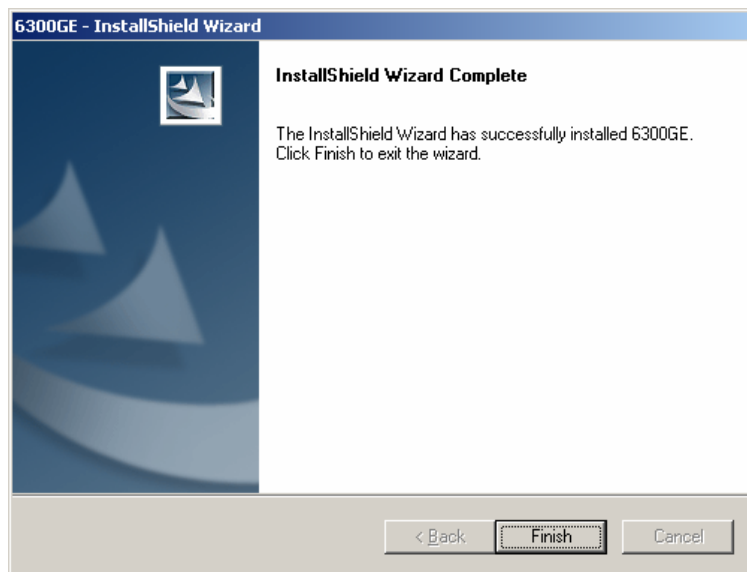

Figure 10
- Upon completion of the Software Installation, the **InstallShield Wizard Complete** window will appear similar to what is seen in Figure 10. This window prompts the user to click the **Finish** button to complete the setup. To continue, click on the **Finish** button.